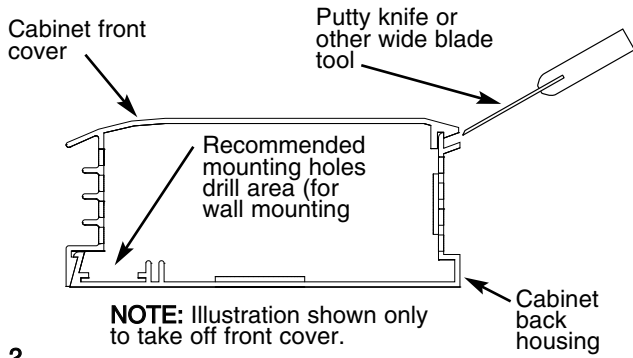

Fig. 2
15. To avoid damaging heater, do not use a screw driver to separate front cover from back housing. Use only a putty knife as shown, see Fig. 2
2. Remove front cover by laying the heater on its back and inserting a putty knife (or other thin, wide blade tool, 1" [25mm] wide minimum) approximately 6" (152mm) from the end of the heater and prying up as shown in Fig.2. This will spring the snap lock closure open. Repeat as required down the length of the heater until the front cover completely disengages from the heater back.
4. Drill the required size mounting holes in the heater housing (See Fig. 2 for recommended mounting hole location.)
5. Drill the required size mounting holes in all the heater housings. (See Fig. 2 for recommended holes in mounting hole location.)